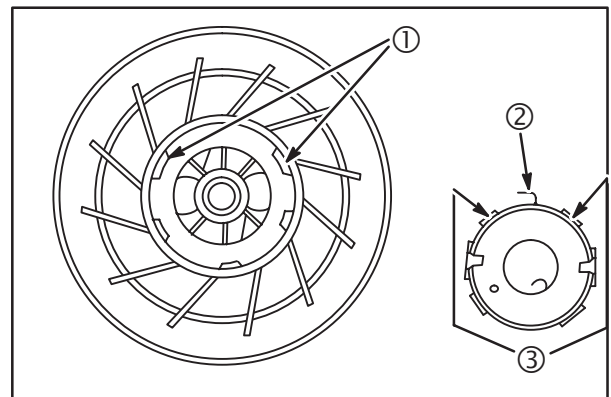

Fig. 69
1. Place spring and cup assembly in pulley with outer end of spring tab (2) between two wide lugs in pulley (1) and spring cup projections (3) next to the two wide lugs, **Fig. 69**.